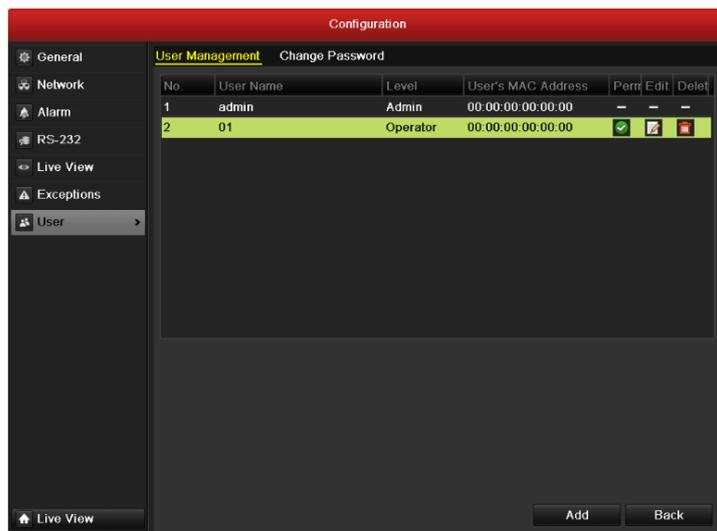

Figure 13.8 Delete a User
2. Select the user to be deleted from the list, as shown in Figure 13.8.